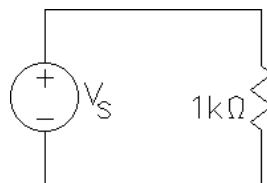

Fig. 1 The first circuit we will test.
Throughout this lab, we will be taking some measurements of some basic circuits. So, let's first learn how to build a basic circuit, like the one shown in Fig. 1.
Fig. 2 Diagram of a resistor connected to the +25 and COM ports of the Agilent Triple Output DC Power Supply. The power supply serves as V_s in the circuit diagram of Fig. 1.
- Now that our circuit is built, we can turn on the power supply (voltage source). To turn the power supply on, press the power button (see #1 in Fig. 1), then select the +25 V output since we're using +25 V and COM ports (#3 in Fig. 1), and then turn on the output (#2 in Fig. 1).
- Set the voltage to a value between 0 and 5 V using the adjustment knob (#4 in Fig. 1). Notice that the adjustment knob changes the digit that is flashing. To change which digit you are working on, use the left and right buttons underneath the knob. The circuit is now active.